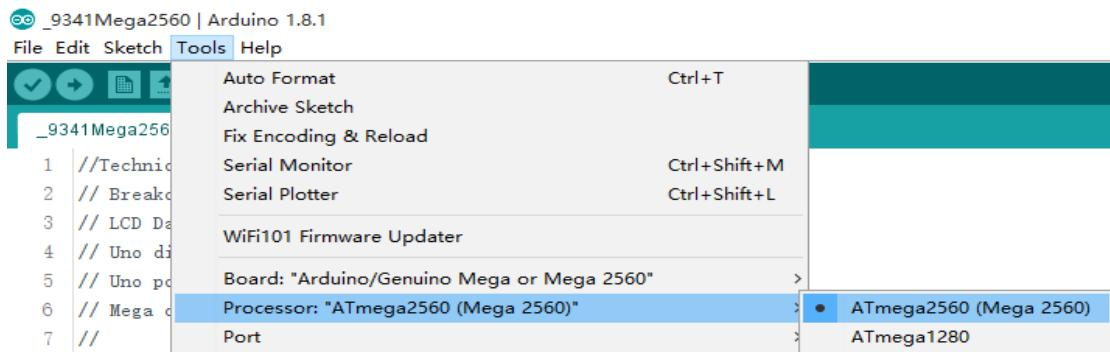

Figure 25
(5) Click "Tools" -- "Processor" -- "ATMega2560(Mega2560)" (See Figure 25)